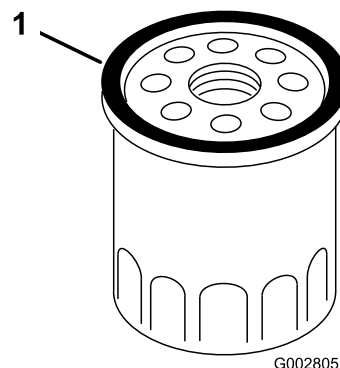

Figure 23
7. Use your finger to coat the gasket on the new filter with oil (Figure 23).